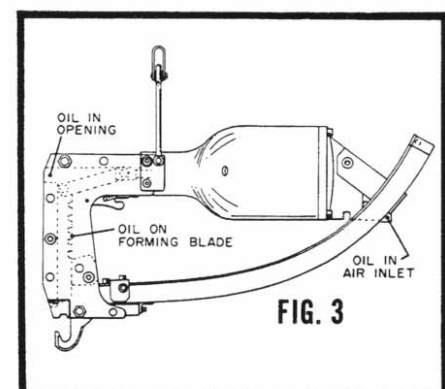

**FIG. 2**
**IMPORTANT:** Place wires in notch of side plates by pushing tool **down** onto wires as shown in Fig. 2.